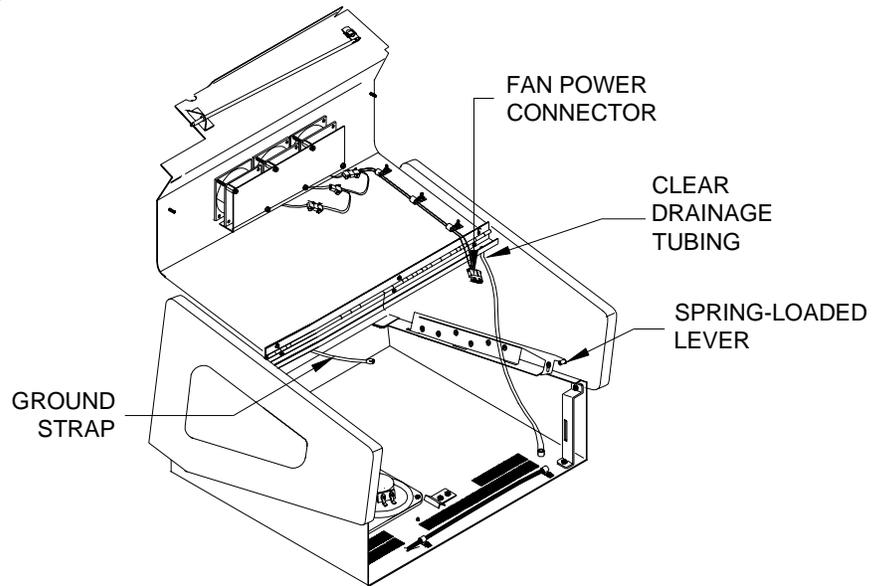

FIGURE 1 - BLUE MAXX/MAXX CLASSIC - HOOD ASSEMBLY
7. After replacing the front bezel, install the lid on the chassis, connecting the fan power connector, monitor control board, ground strap, and plastic drain tube. Then pull the lid towards you until the spring-loaded levers lock into place. See Figures 1 and 2 for locations.
3. Lift the spring-loaded pin (see Figure 1) and carefully slide the CPU shelf out from the game and into its service position.